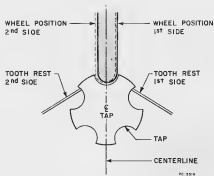

Figure 53A
5. Mount wheel collet assembly and guard to the spindle housing, using wheel Print No. 1Y, thickness of wheel to be smaller than width of flute of the tap to be ground (Figure 53A).
6. Dress the wheel with a hand dressing stick so shape will be the same as that of the flute of the tap (Figure 53A).
7. Adjust saddle to position centerline of tap, to approximately the same centerline as the grinding wheel (Figure 53A).
8. Grind one side of flute making sure not to destroy the original manufacturer's shape of the flute. Redlead can be used as an aid in determining if tap and wheel are positioned correctly to grind one side of the flute as shown in Figure 53A. Very little stock removal is necessary to sharpen this tap. **Note:** Taps are normally sharpened by grinding the lead, the procedure outlined above should only be used if absolutely necessary.